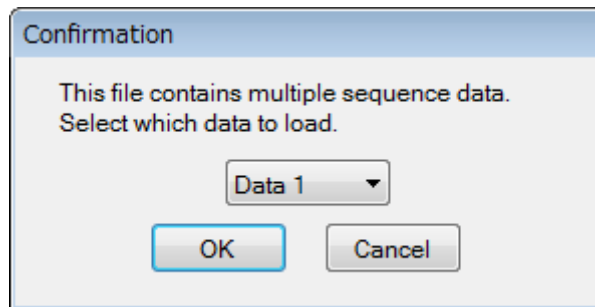

Figure 5-12 Sequence Data Select Dialog
- When you open a file created with “BP0421 Sequence Edit software” which includes sequence data of multiple BP power sources, a dialog as shown in Figure 5-12 appears. In the dialog, select one of the data, and then click ☒ OK to load the selected one.